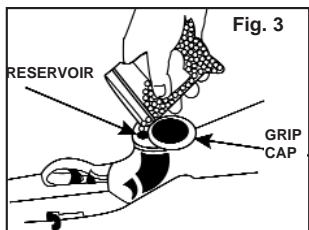

Fig. 3
- Slide grip cap toward the rear of the airgun (Fig. 3).